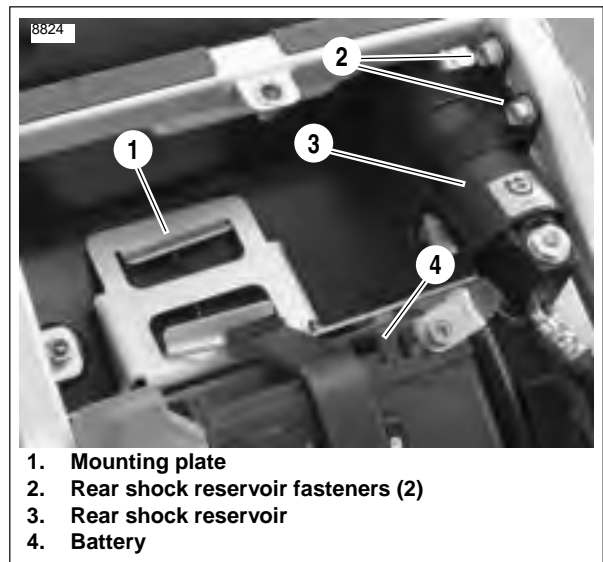

Figure 4-119. Carbon Canister Mounting
3. Label and disconnect the fuel tank vent hose (2) and canister vent hose (3) from the canister.
4. See Figure 4-119. Remove rear shock absorber reservoir fasteners (2). Move reservoir assembly away from canister.
5. Slide canister towards left side of vehicle to disengage from mounting plate (1).
1. See Figure 4-119. Slide canister into position on canister mounting plate (1).
2. Place rear shock reservoir assembly (3) into position.
3. See Figure 4-119. Install reservoir mounting fasteners (2). Tighten fasteners to 120-144 **in-lbs** (13.6-16.3 Nm).